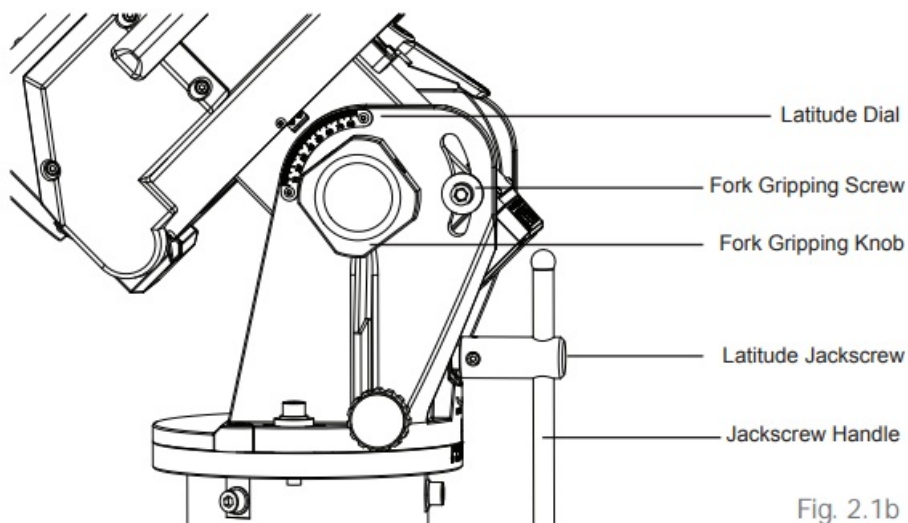

Fig. 2.1b
- Loosen the fork gripping knobs and screws (Fig 2.1b) on both sides of the EQ8-R mount, and then tighten them slightly.